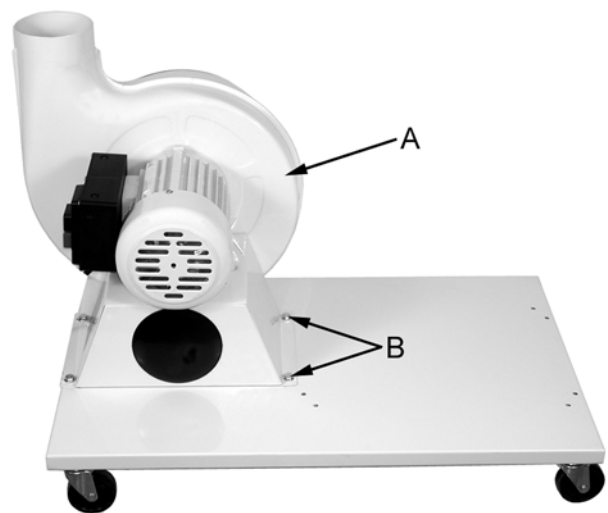

Figure 2
1. Install *four* casters to the under side of the base as pictured in Fig. 2.
3. Place the base with casters on the ground. Attach the motor and fan assembly (A, Fig. 2) to the base using four M8 x 16 hex cap screws, four M8 flat washers (B, Fig. 2), and a 13mm wrench.